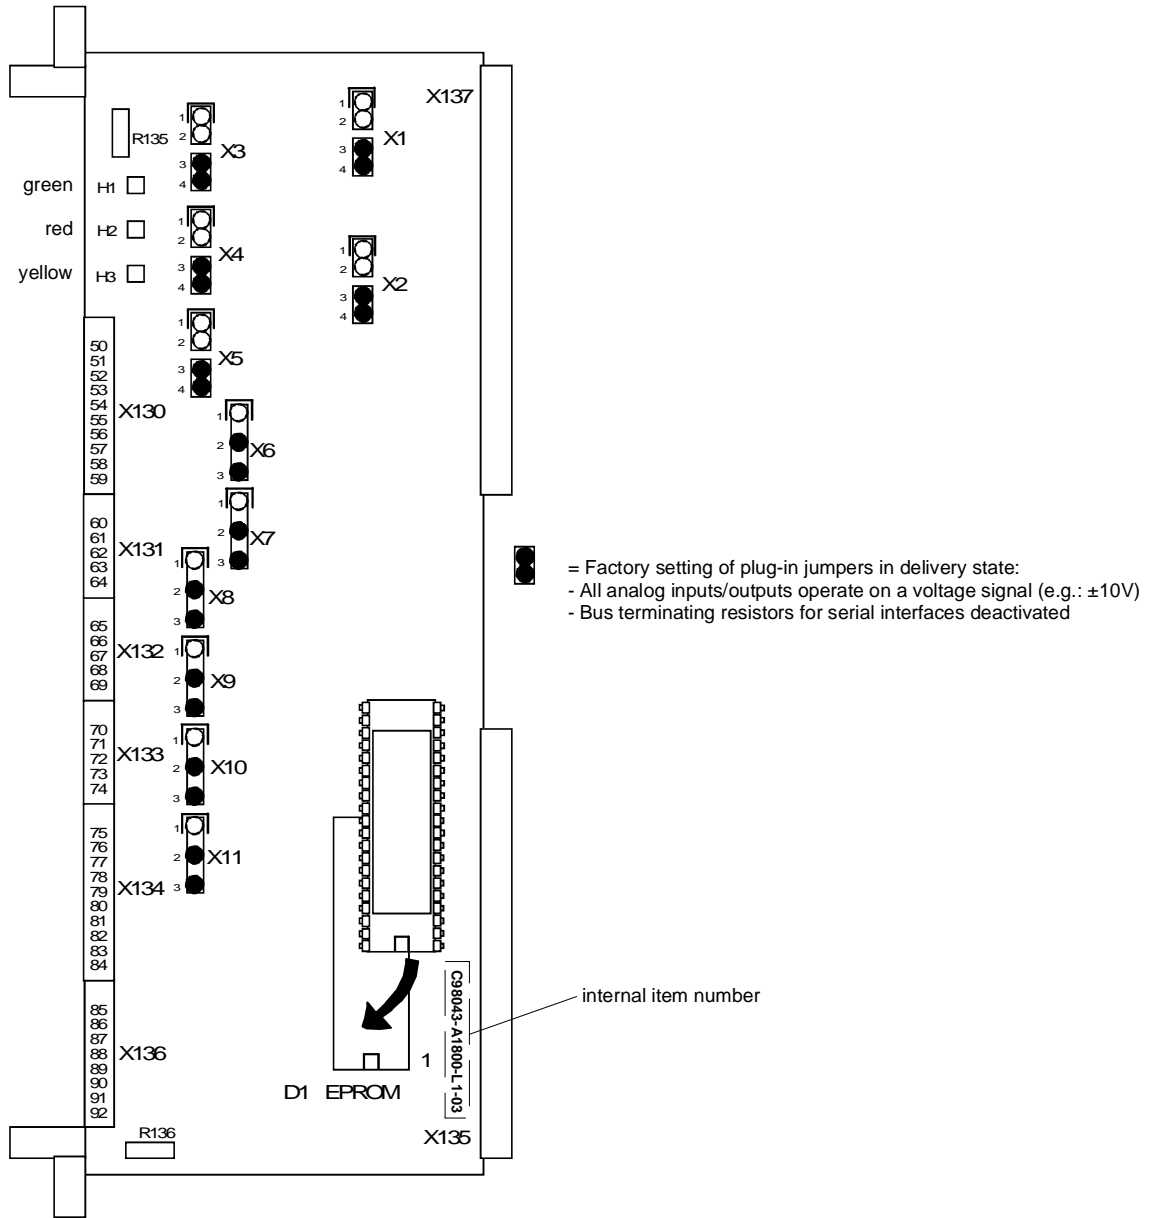

Fig. 3.2 Control terminals and actuators on T100 board
The T100 has three diagnosis LEDs which display the following operational states (see Fig. 3.2):
Insert software module (EPROM) correctly in location D1 on the technology board (note recess or marking of pin 1, see Fig. 3.2). Then make sure that all pins are inserted correctly.
Conductors with cross-sections of between 0.14 mm² and 1.5 mm² (AWG: 26 to 16), or 1 mm² (AWG: 18) finely stranded with ferrules, can be connected to the terminals (recommended: 0.5 mm² (AWG: 20)). The connectors can be identified by the terminal numbers (Table 3.1), the connector position on the board is shown in Fig. 3.2.
3.4 Adjusting elements on technology board (see Fig. 3.2)